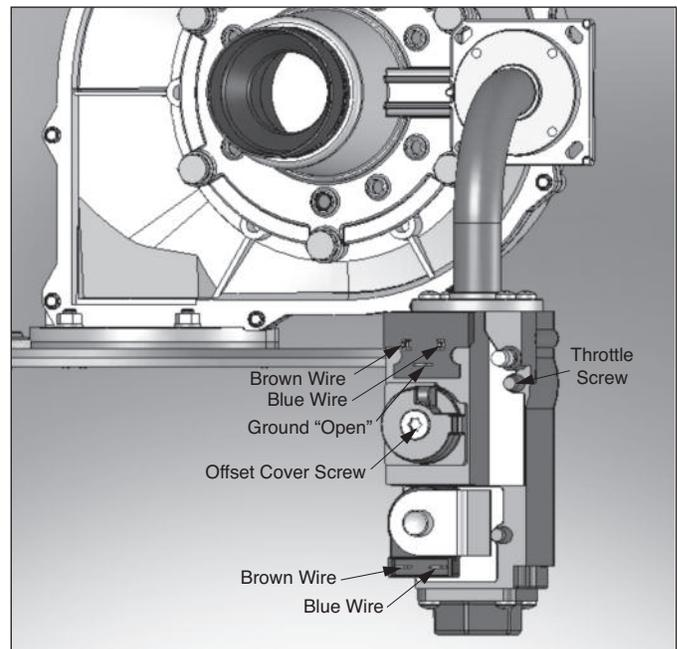

Fig. 3: Prestige 399 Gas Valve
16. Reconnect the wiring to the gas valve as shown in Fig. 3.
- If the combustion levels during high fire is outside the recommended combustion settings in Table 2, adjust the THROTTLE SCREW (see Fig. 3) using a flat-blade screwdriver.
- If the combustion levels (O₂ or CO₂) during low fire is not within +/- 0.2 of the combustion level measured at high fire, remove the offset cover screw and adjust the plastic OFFSET SCREW (see Fig 3) using a T-40 Torx wrench as follows:
6. If the combustion levels during high fire are outside the recommended combustion settings in Table 2, adjust the THROTTLE SCREW (see Fig. 3) using a flat-blade screwdriver.
8. If the combustion level (O₂ or CO₂) during low fire is not within +/-0.2 of the combustion level measured at high fire, remove the offset cover screw and adjust the plastic OFFSET SCREW (see Fig. 3) using a T-40 Torx wrench as follows: